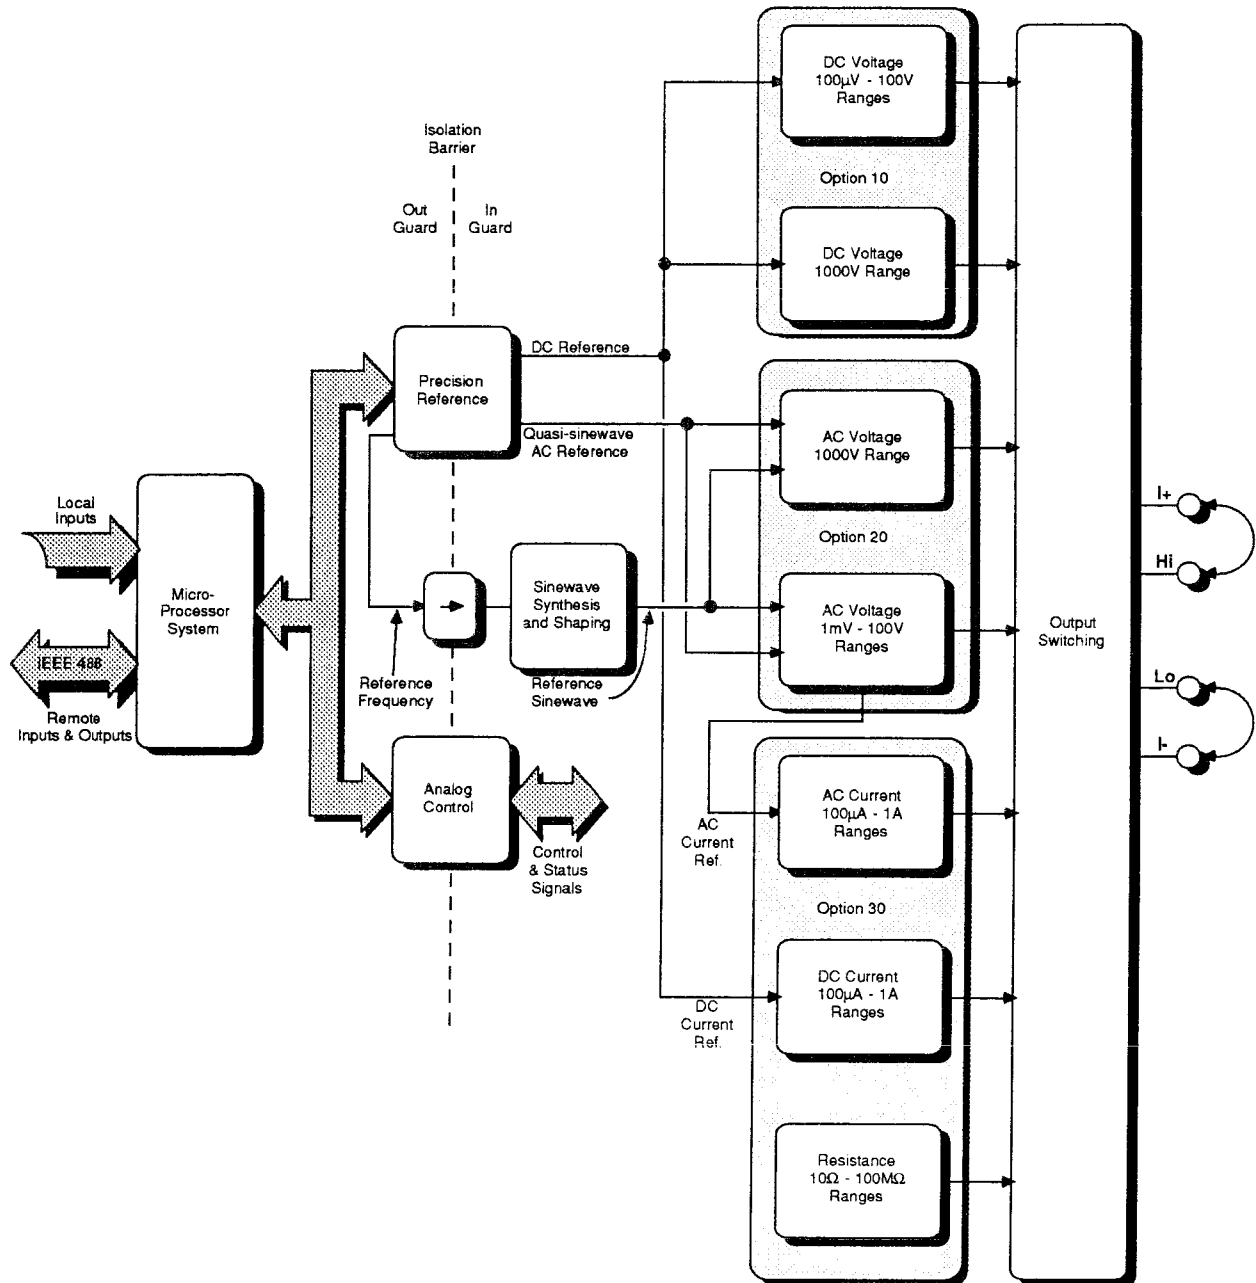

FIG. 5.1 4708 SIMPLIFIED BLOCK DIAGRAM
*Figure 5.1* illustrates the general functions and signal flow within the 4708.